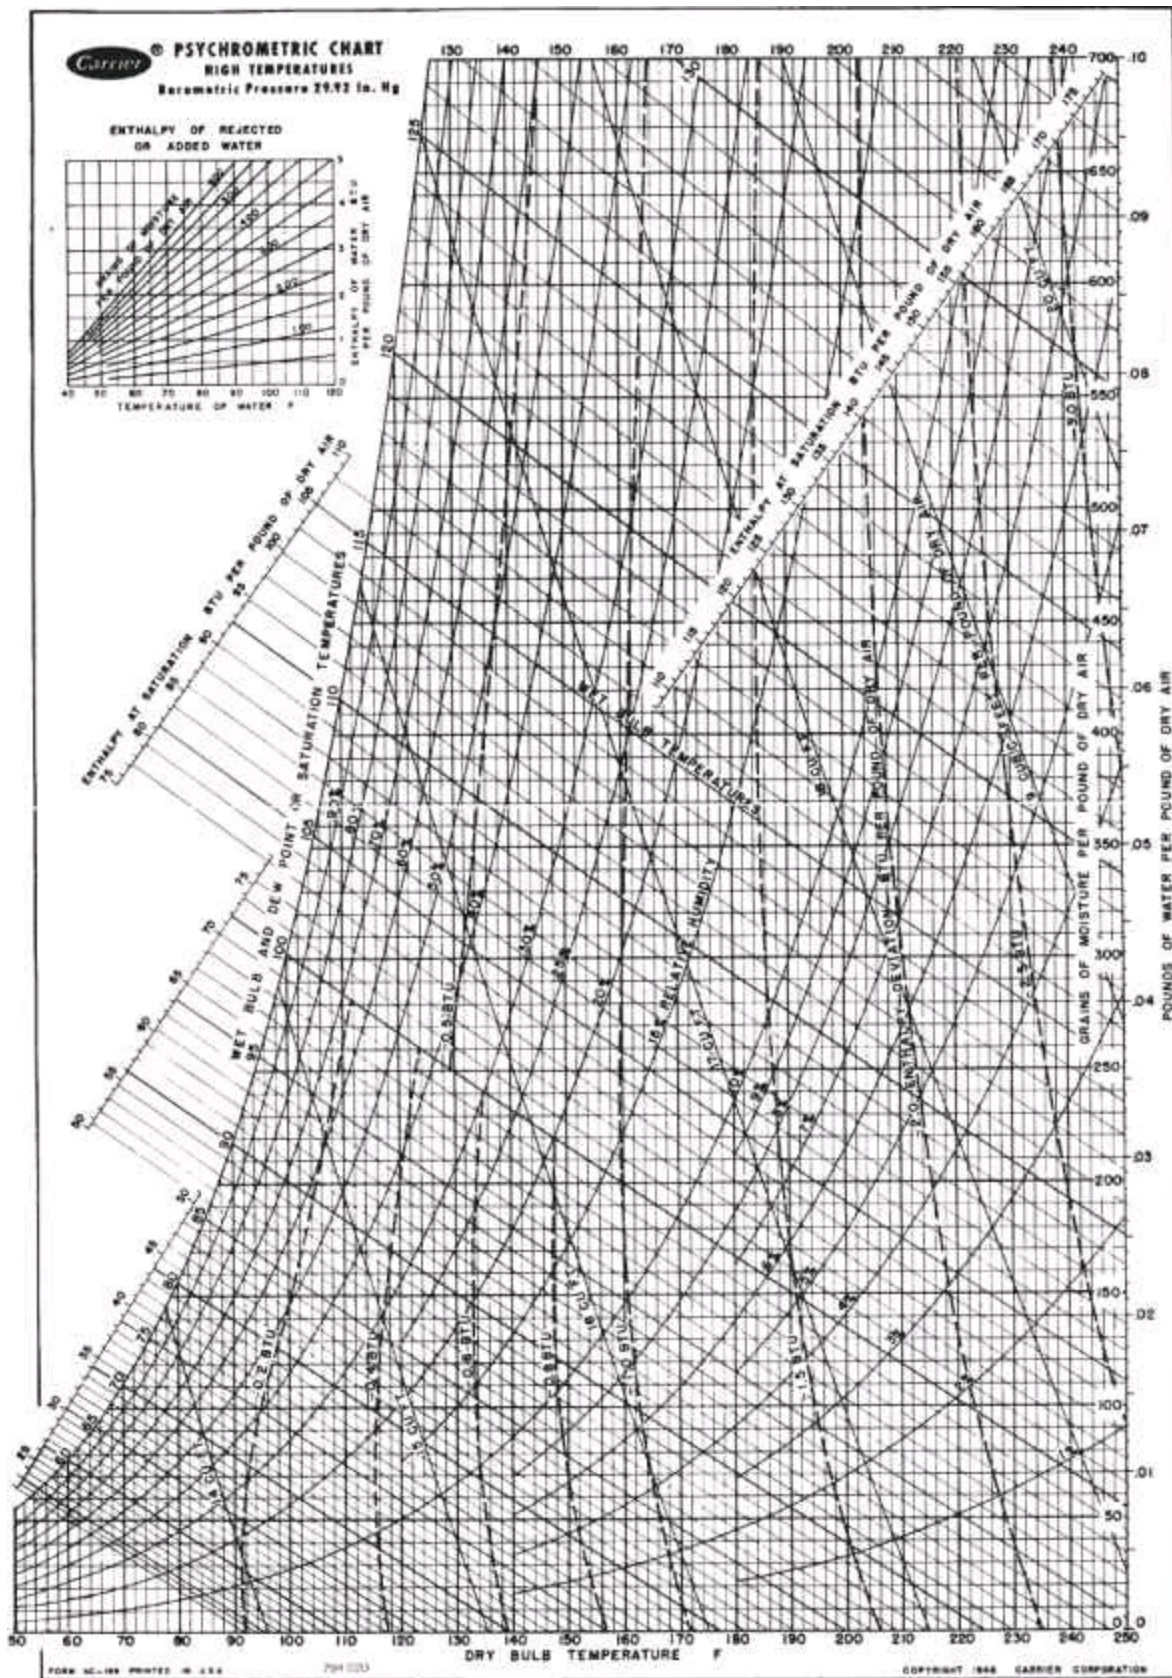

Figure 11.7a. Psychrometric chart in American Engineering units (Reprinted by permission of Carrier Corporation)
Figures 11.7a and 11.7b are reproductions of the Carrier psychrometric charts.
- e. **Enthalpy.** The enthalpy value for saturated air with a wet-bulb temperature of 70°F is $\Delta\hat{H}$ of dry air (a more accurate value can be obtained from psychrometric tables if needed). The enthalpy deviation shown by the dashed curves in Figure 11.7a (not shown in Figure E11.1) for less than saturated air is about -0.2 Btu/lb of dry air; consequently, the actual enthalpy of air at 37% RH is $34.0 - 0.2 = 33.8$ Btu/lb of dry air.